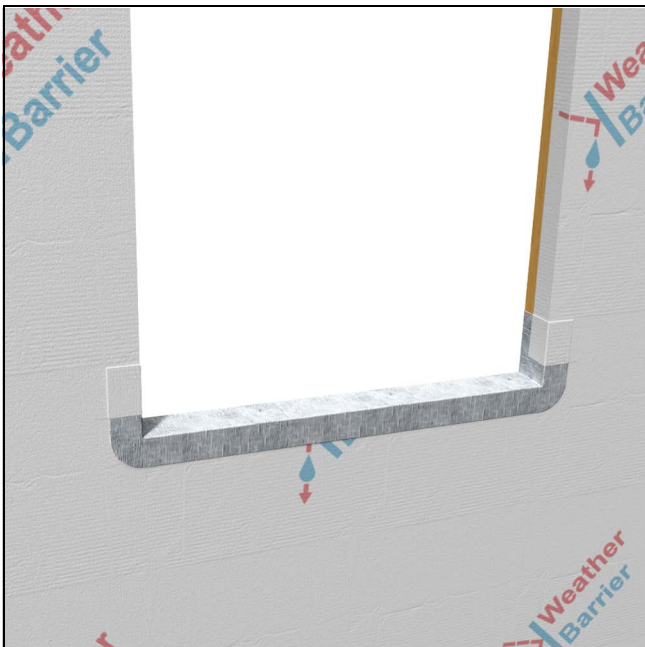

Figure 20
5. Wrap side flaps to the interior and staple in place about 1-1/2" from the interior edge of the opening. Cut the excess off near the staple so that a 1" to 1-1/2" strip of bare wood is exposed. Tape this edge with seam seal tape. See Figure 20.